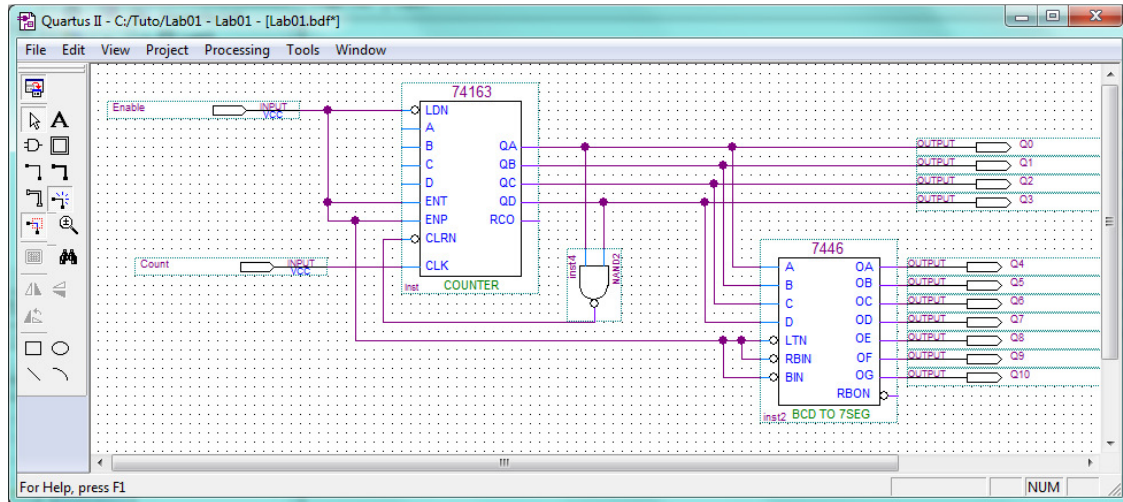

Fig. 7: Schematic File design of a Decimal Counter
- Draw the schematic design of a mod-9 counter module as shown in Fig. 7. This counter counts from 0 to 9 and resets to 0.